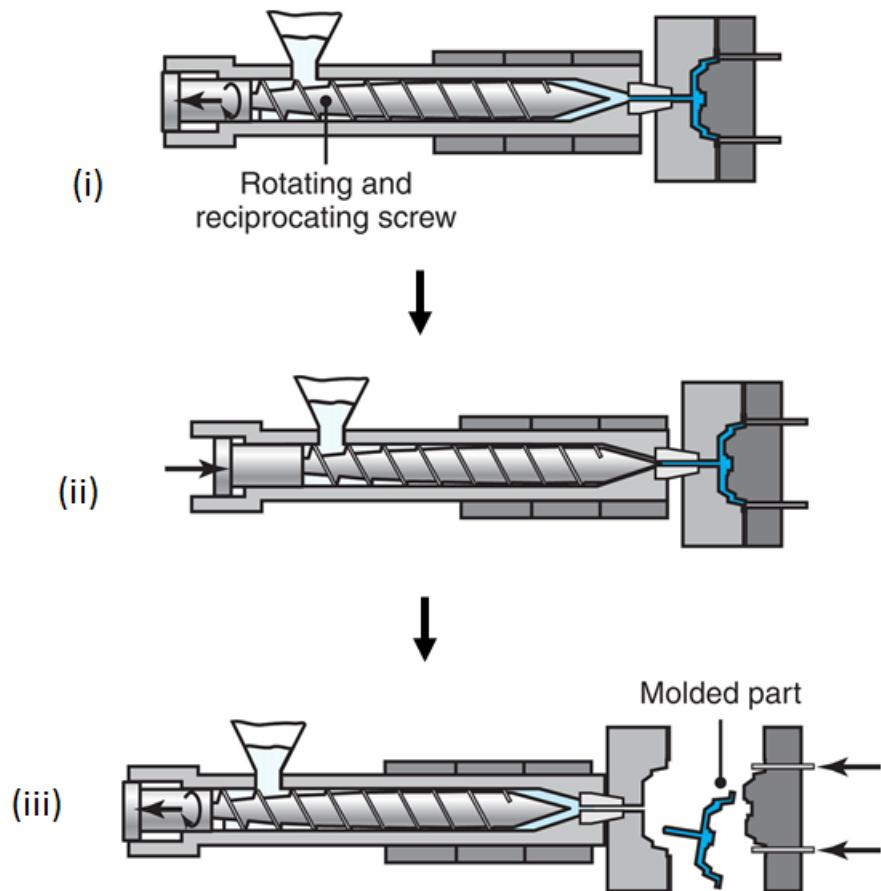

Figure Q2[b]
- [b] Figure Q2[b] show the sequence of operations in the injection molding of a part with a reciprocating screw. Explain each of the process.